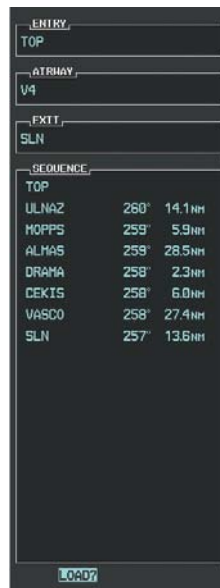

Figure 5-113 Ready to Load V4
j) Press the **ENT** Key. The selected airway and exit are displayed, and the prompt "LOAD?" highlighted as in Figure 5-113.